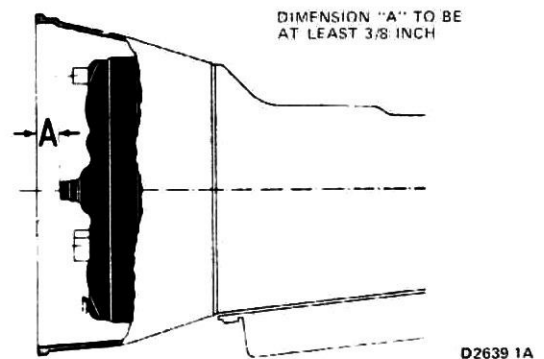

FIG. 7 Converter Hub to Housing Flange Position
2. Position the converter to the transmission making sure the converter hub is fully engaged in the pump gear (Fig. 7). **The dimension given in the illustration is for guidance only. It does not indicate engagement.**